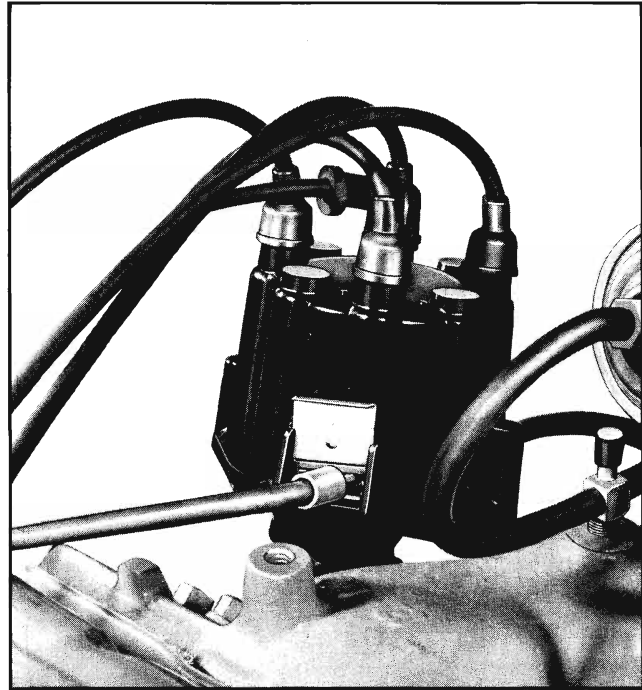

Fig. 11-56 Adjusting Dwell Angle
With the engine running at idle, the dwell is adjusted by first raising the window provided in the distributor cap and inserting a "Hex" wrench into the head of the adjusting screw as shown in Figure 11-56.
2. With the distributor operating turn the adjusting screw (Fig. 11-56) until the proper dwell angle is obtained.